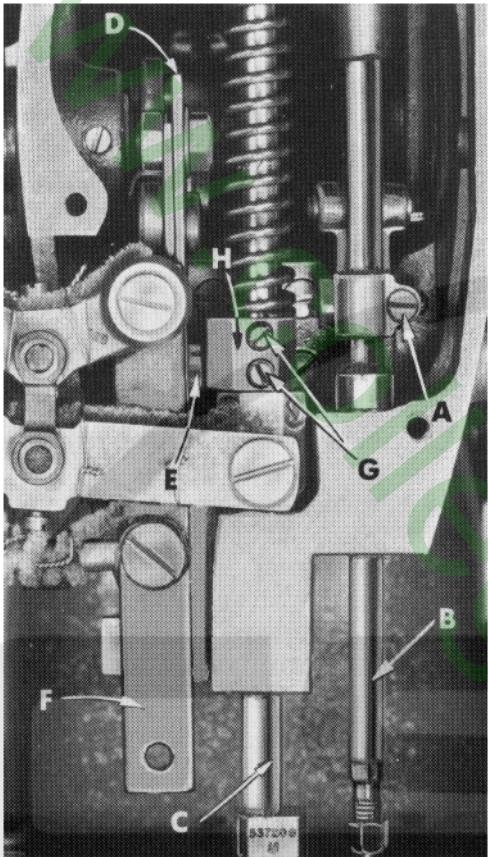
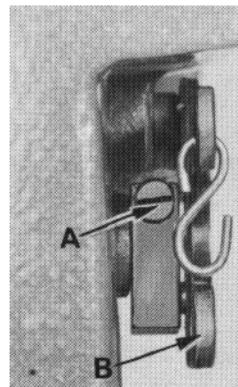

Fig. 3
Fig. 12
The height of the needle is correct when the top of its eye is 1/64 inch below the underside of the looper, when the looper point is flush with the left side of the needle. If adjustment is necessary, loosen screw (A, Fig. 3) and move needle bar (B) up or down as required and retighten screw (A).
If adjustment is needed, loosen tension release lever screw (A, Fig. 12), located at the back of the machine and move tension disc separator as required. Retighten screw. After adjustment there should be no binding at any point.
The height of the presser bar (C, Fig. 3) is set correctly if it is possible to remove the presser foot when the foot lifter lever (B, Fig. 12) is fully depressed.
If adjustment is necessary, turn handwheel in operating direction until the needle bar is in the low position. Loosen screws (G, Fig. 3), then, while holding presser foot down on the throat plate surface, pry up presserbar connection and guide (H) with a screwdriver to obtain the 1/16 inch setting and retighten screws.